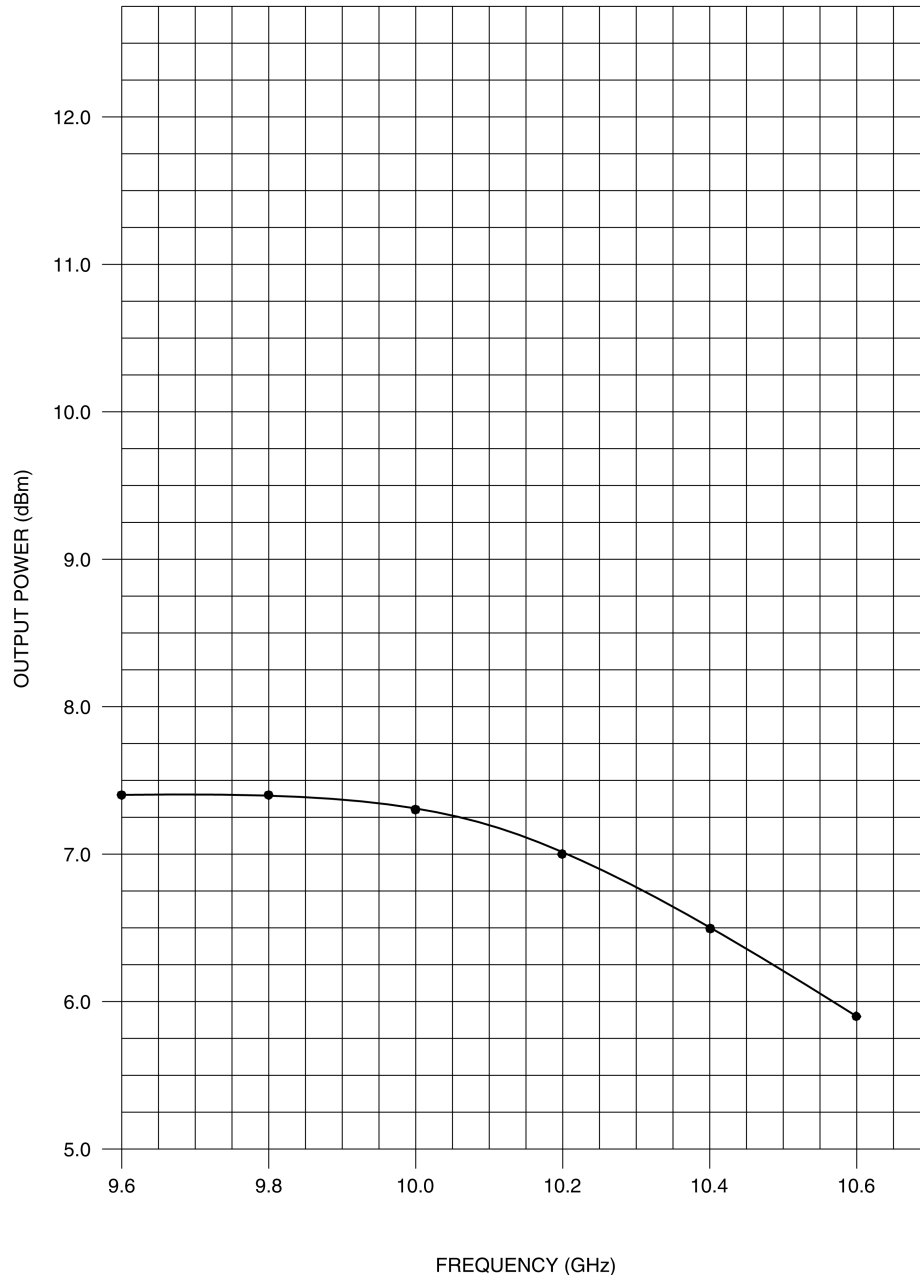

Figure 2-8. VCO output signal power over its nominal frequency range.
- 10. The curve shown in Figure 2-8 is an example of what you might obtain. Your curve can be a bit different, due to the fact that the power-versus-frequency response varies from one VCO to another.